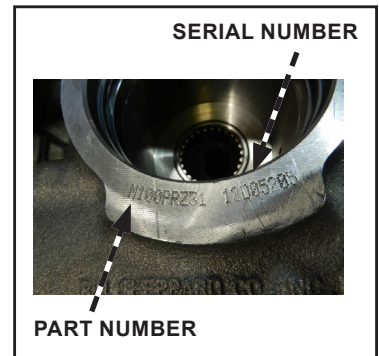

Figure 1 – Style 1
*Style 1:* This style will have the serial number and part number engraved on one line with a space between the part number and serial number. The entire engraving should be centered on the machined surface. See *Figure 1*.